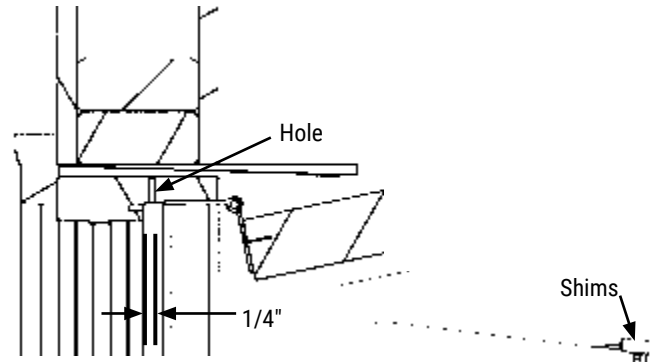
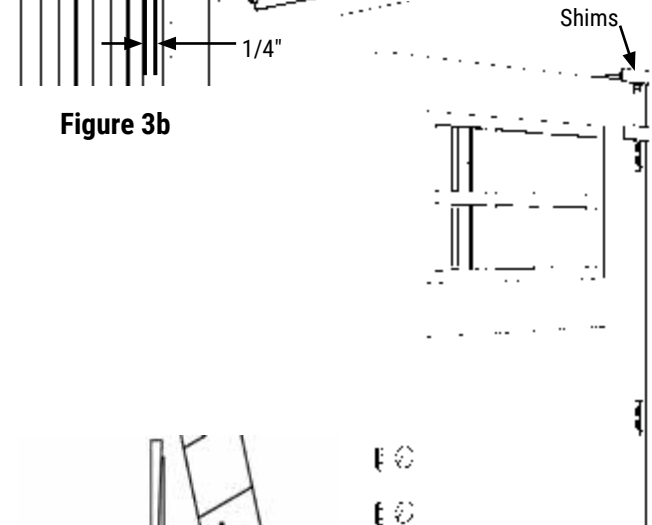
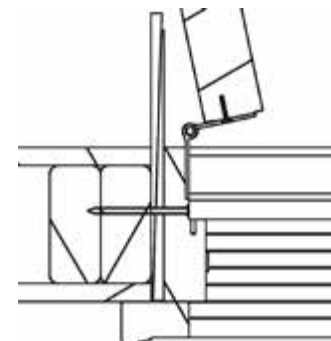

Figure 3b
Figure 3c
Figure 3d
**METHOD ONE:** Open Door and remove jamb weatherstrip to minimize damage. For each hinge or latch jamb next to a frame opening, drill two 3/16" holes. Locate one 8" from the top and one 8" from the bottom. Drill the holes 1/4" from the jamb stop (**Figure 3b**). Drive #10 x 3" screws through holes in hinge jamb, leaving screw heads 1/4" above jamb surface. Place additional shims directly above screws (**Figure 3c**). Make sure new shims are tight but do not bow the jamb. Recheck hinge jamb to make sure it is still plumb. Finish driving screw heads 1/16" below jamb surface to avoid damaging door.
**METHOD TWO:** Open Door and remove jamb weatherstrip to minimize damage. For each hinge or latch jamb next to a frame opening, drill two 3/16" holes. Locate one at 8" from the top and one at 8" from the bottom. Drill the holes 1/4" from the jamb stop (**Figure 3b**). Drive #10 x 3" screws through holes in hinge jamb, leaving screw heads a 1/4" above jamb surface. Place additional shims directly above screws (**Figure 3c**). Make sure new shims are tight but do not bow the jamb. Recheck hinge jamb to make sure it is still plumb. Finish driving screw heads flush to jamb surface to avoid damaging door (**Figure 3d**).
**METHOD THREE:** For each sidelite jamb next to a frame opening, drill four 3/16" holes. Locate first at 8" from the top and second at 8" from the bottom. Space holes 1-1/4" from sidelite surface (**Figure 3e**). Equally space additional two holes between first two holes. On hinge side only, drive #10 x 3" screws through holes. Place additional shims directly above screws. Make sure new shims are tight but do not bow the jamb (**Figure 3c**). Recheck sidelite jamb to make sure it is still plumb. Finish driving screw heads slightly (1/16") below jamb surface.
**METHOD FOUR:** For each sidelite jamb next to a frame opening, drill four 3/16" holes. Locate one at 8" from the top and one at 8" from the bottom. Space holes 1-1/4" from sidelite surface (**Figure 3e**). Equally space additional two holes between first two holes. On hinge side only, drive #10 x 3" screws through holes. Place additional shims directly above screws (**Figure 3c**). Make sure new shims are tight but do not bow the jamb. Recheck sidelite jamb to make sure it is still plumb. Adjust shims if necessary. Finish driving screw heads flush to jamb surface.
**METHOD FIVE:** These jambs have pre-drilled counterbores. Drill 3/16" holes through the counterbores per **Figure 3f**. On hinge side only, drive #10 x 3" screws through holes. Place additional shims directly above screws (**Figure 3c**). Make sure new shims are tight but do not bow the jamb. Recheck sidelite jamb to make sure it is still plumb. Drive screw heads 1/4" below the jamb surface to allow room for hole plug (**Figure 3f**).